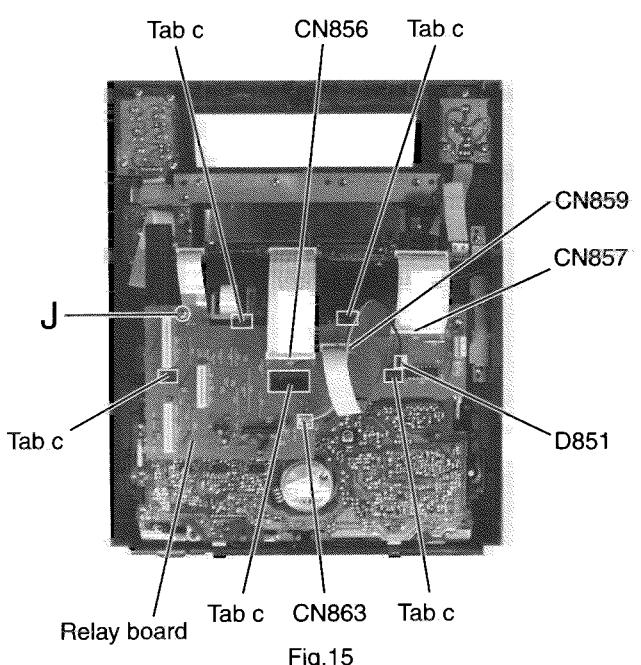

Fig.15
**■ Removing the Relay Board** (See Fig.15)